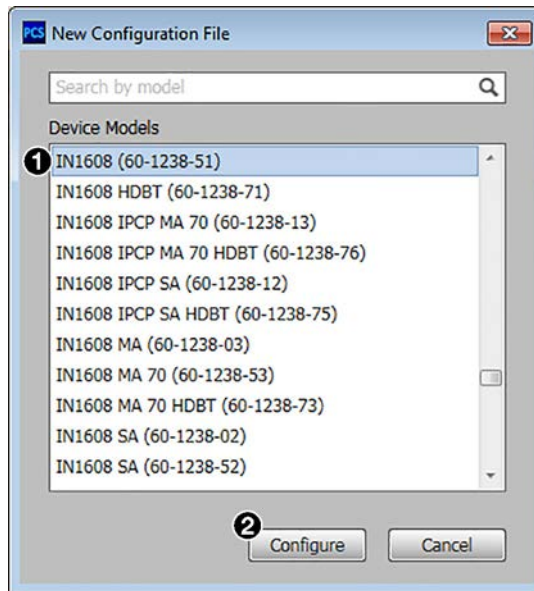

Figure 38. New Configuration File Dialog Box (IN1608 Selected)
2. Select the desired device model from the Device Models list (see figure 38, ①).
3. Click the **Configure** button (②). A new offline device configuration tab opens.